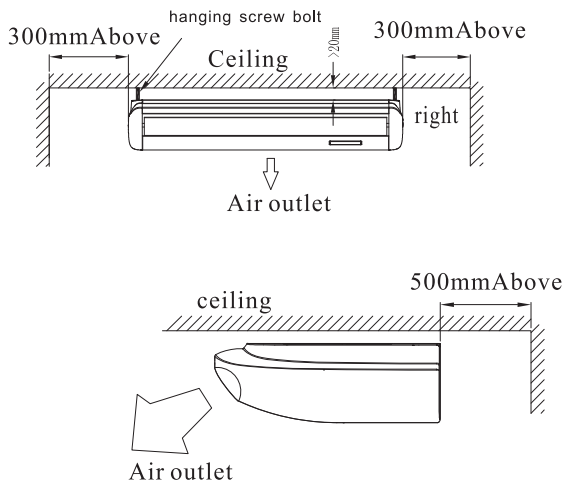

Fig15
■ Hang the unit on the hanging arm by sliding backward. Securely tighten the mounting bolts on both sides (Refer to Fig15)